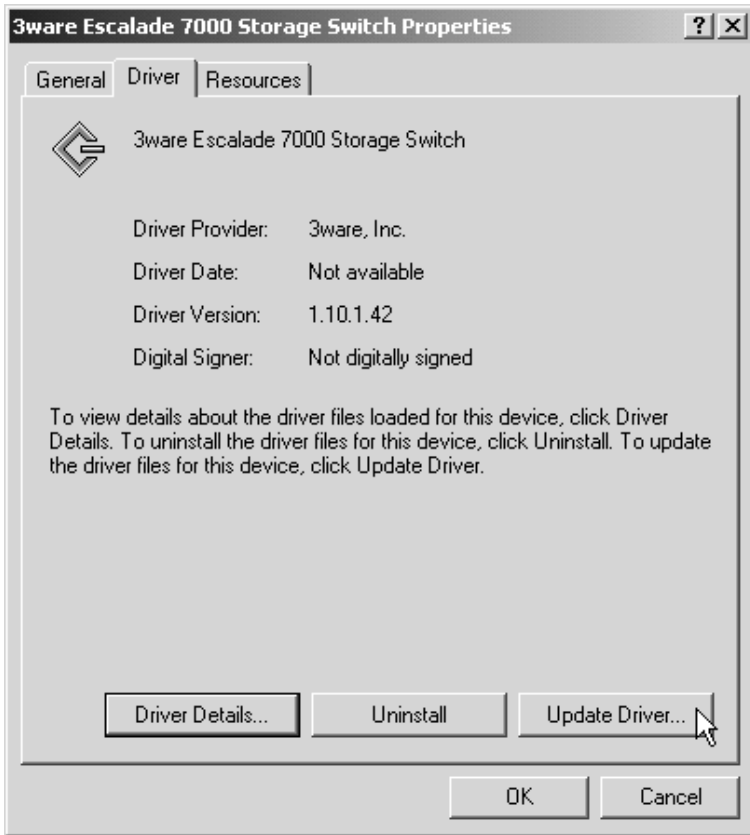

Figure 39. 3ware Storage Switch Properties Display
- 8 Click on the **Driver** tab (see Figure 39).